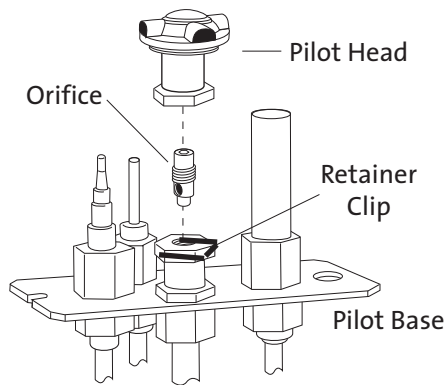

Figure 20.
10. Change the Pilot Orifice: From within the firebox, remove the Pilot Head by pulling it straight up from the pilot base. See fig. 20.
11. Tighten orifice into the base of the pilot assembly. To prevent bypass leaks, be sure the orifice is secured tightly and flush with the base. Replace pilot head by pushing it down onto the pilot base. See fig. 20.